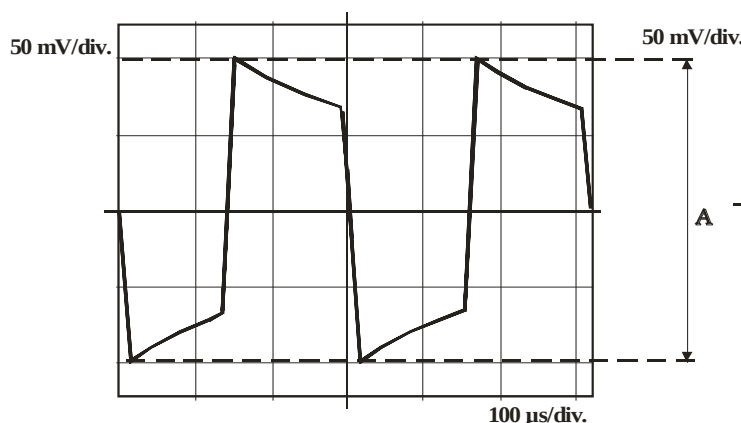

Figure 13 - Correct waveform
- o) Press key **"buzzer"** (15) untill the buzzer enabling led **"buzzer On"** (16) is on. When there are no movements in the protection field check that the buzzer is mute. If otherwise, press key **"↓ buzzer adj."** (14) till it turns off. If when activating the function the buzzer is already mute press key **"↑ buzzer adj."** (13) till an intermittent operation is obtained, afterwards slightly press key **"↓ buzzer adj."** (14) till it switches off.
- s) The STC 95 is provided with an **RCA** (23) connector which, through the cable supplied, allows to check the wave form of the received signal. An oscilloscope (any of the types present on the market) is utilised for this check. A good connection between the transmitting head and the receiving head produces the waveform illustrated in fig. 13.
Note the noise at the tip of the square wave. This means that the signal is not good. Therefore, repeat the pointing operations till the waveform shown in fig. 13 is obtained. In case of bad barrier installation the waveform will be like the one in fig. 14. All the data concerning the tests made on the plant must be reported on the test sheets supplied for each barrier. This will make the servicing operations easier to carry out.